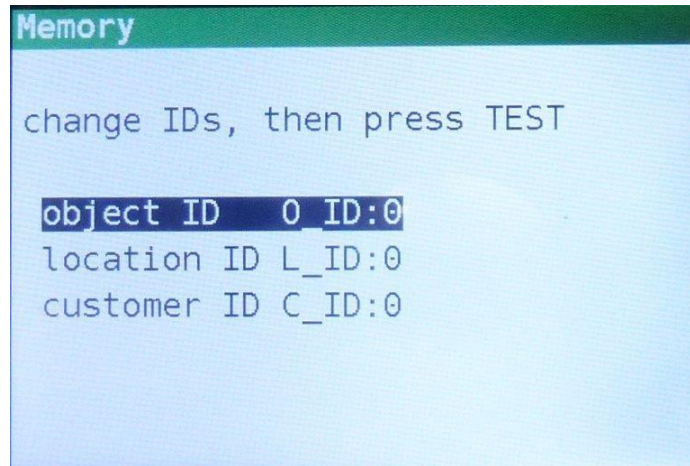

Figure 8.5: ID editor
Step 3 To change customer ID, location ID or object ID, press the **LEFT** key. The following screen will be displayed (Figure 8.5).